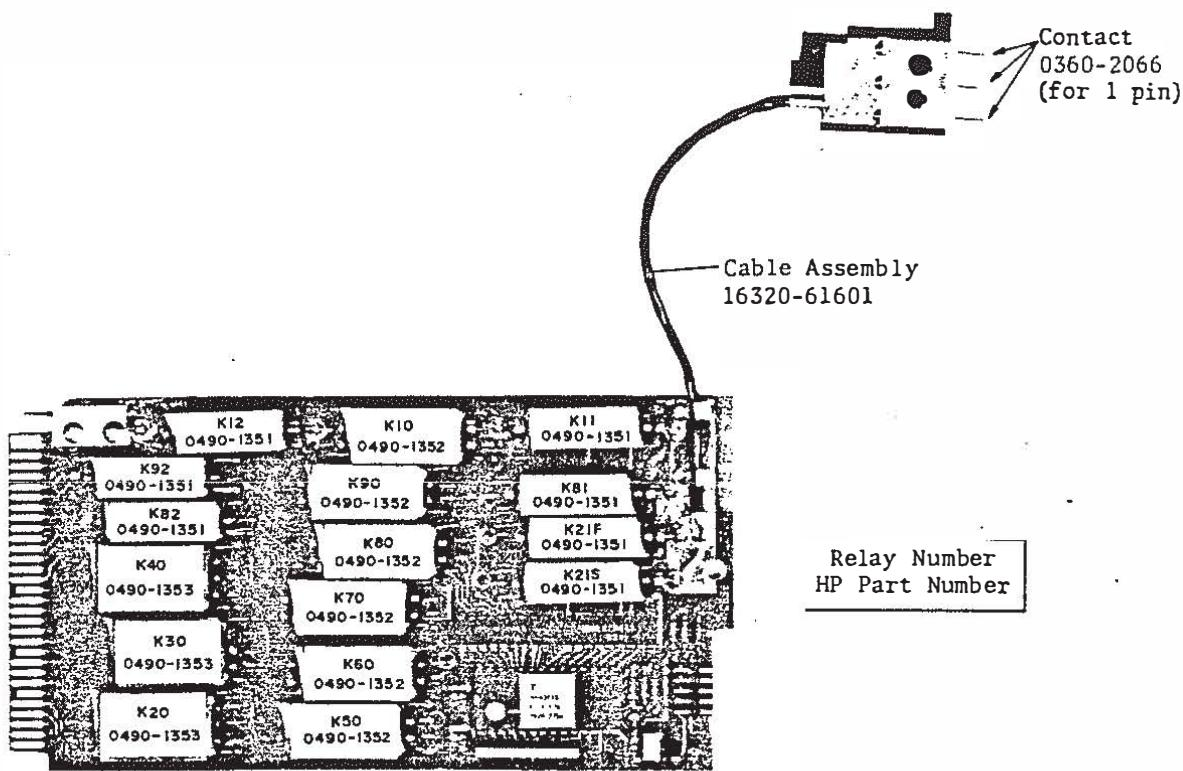

Figure 4-10. Relay Locations
- (3) Lightly tap the stuck relay with your finger two or three times. See Figure 4-10 for relay locations on the pin board.
- (4) Mark the stuck relay with a ball-point pen to indicate its failure history. If the stuck relay fails more than twice, the pin board should be replaced. Refer to paragraph 4-19 for instructions on pin board replacement.